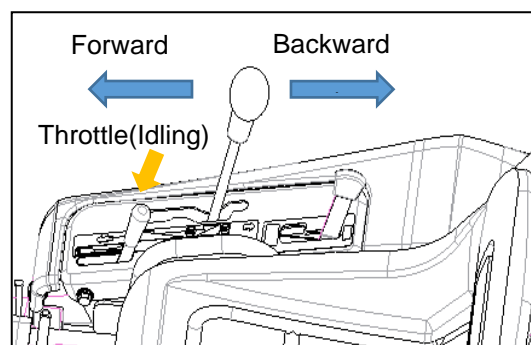

Figure 15
- **Tilt the change lever by half to FORWARD and BACKWARD for 10 seconds and then, return the change lever to neutral position.(Figure 15)**
**When tilt the change lever, throttle must be kept idling. (Figure 15)**